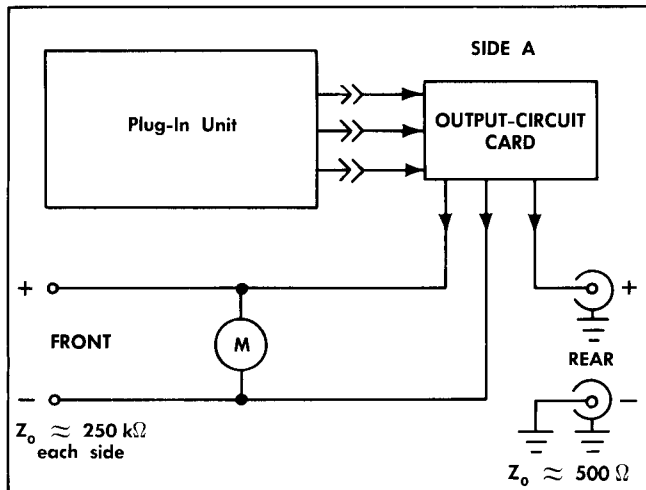

Fig. 1-2. Passive-Circuit Card — SIDE A.
**SIDE A**—When visible, a push-pull signal is obtained from the front-panel connectors only. This signal is an attenuated sample of the signal at pins 17 and 21 of the plug-in unit. See Fig. 1-2. Output resistance of the front-panel signal is about 250 k $\Omega$  per side and is intended only for driving the OUTPUT MONITOR meter on an uncalibrated basis. Very high-impedance external devices may be connected, but this is not recommended since any external load may change the meter reading.